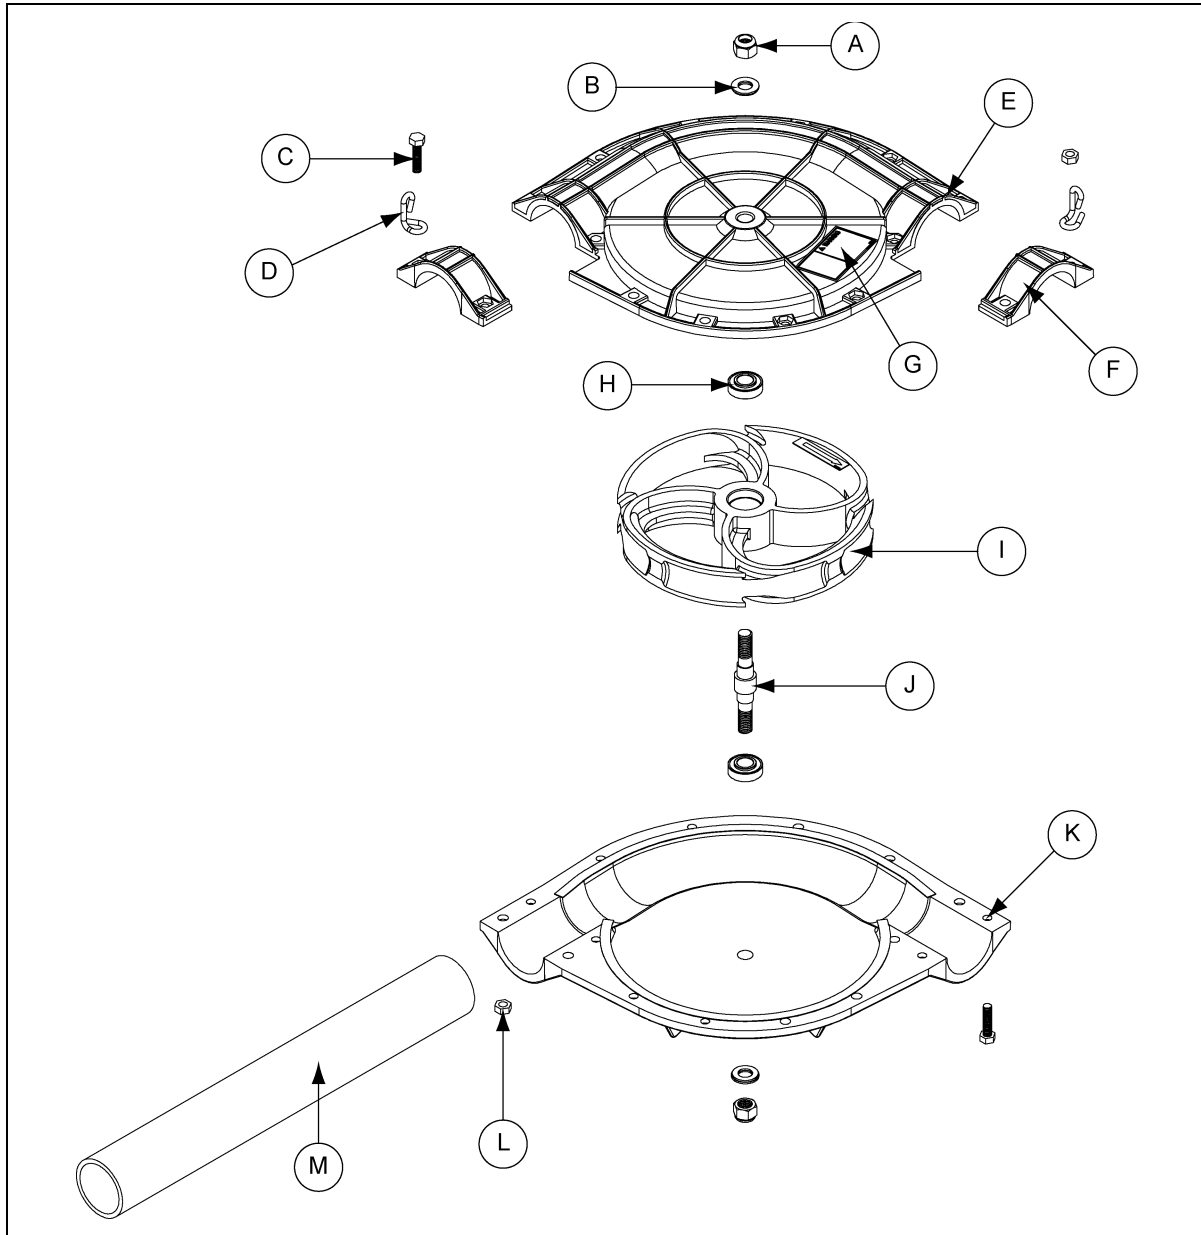

Figure 8B Vertical and Inclined Corner Installation and Suspension
- 2. Replace the 1/2" neoprene backed flat washer and 1/2" lock nut on the pivot shaft to retain the idler wheel from being pulled off during chain and disk installation. The top of the corner can remain off until after the chain and disks are installed. Corner must be suspended using the two (2) wire suspension angles provided to avoid tubing wear. Use one wire suspension angle on each side of the corner. (See Figure 8A below and Figure 8B on Page 23.) Place wire suspension angles over the add on clamps so that corners will be supported before tops are installed.